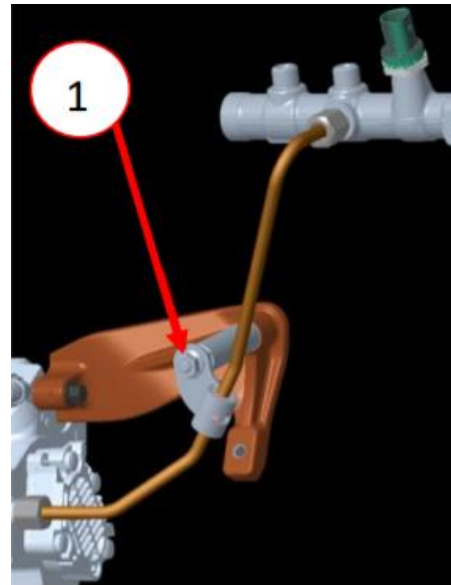

Figure 29 – HPFP to Fuel Rail Supply Line
34. Initially finger tighten both HPFP to fuel rail supply tube union nuts at the pump and at the fuel rail. Make sure the bracket slot aligns to the standoff, slide bracket along the tube to align if slightly off (Figure 29).
35. Finger tighten the M8 nut (PN 3900589) (1) (Figure 29).
36. Tighten the union nut at the pump first, then the fuel rail to 55 N·m (41 ft. lbs.) (Figure 29).